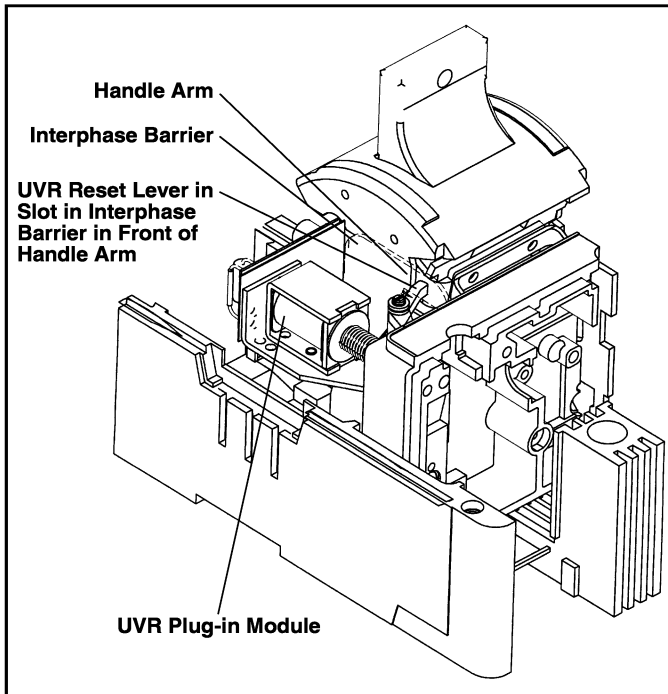

Fig. 2-4 UVR Installation
- 2-8. Install UVR as described in following steps (see Fig. 2-4):
- d. Push circuit breaker handle towards the ON position and hold while sliding UVR plug-in module into slots in trip unit (Fig. 2-4) until retaining clip snaps into trip unit. For terminal block assemblies, slide terminal block into mounting slot on side of base as plug-in module is being positioned.